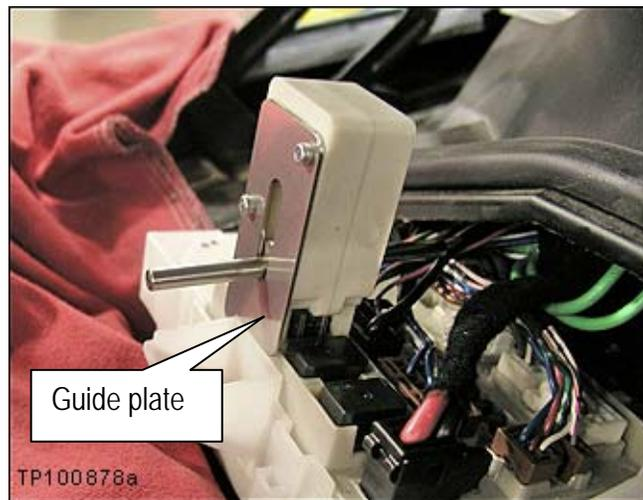

Figure 4
9. Place Special Tool J-50389 over the ECM relay (see Figure 4).